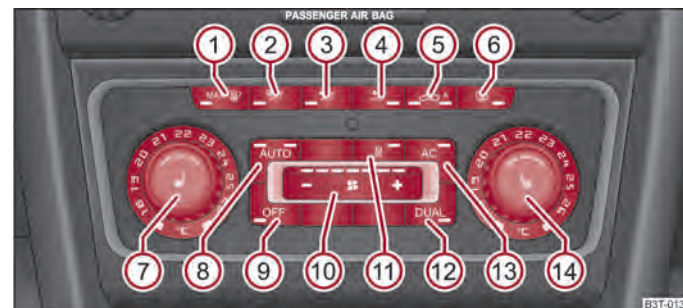

Fig. 111 Climatronic: Control elements
- Press the button **AUTO** ⇒ fig. 111.
- If the windscreen mists up, press the button  ① ⇒ fig. 111. After the windscreen has been demisted, press the button .
- Press the button  ⇒ fig. 111.